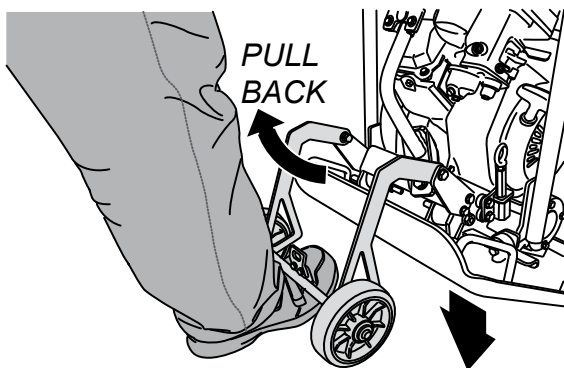

Figure 14. Pulling Back Axle (Foot)
2. Once the wheels have been positioned away from the rear of the compactor, place your foot (Figure 14) under the axle bar and pull back axle until the wheels touch the ground.